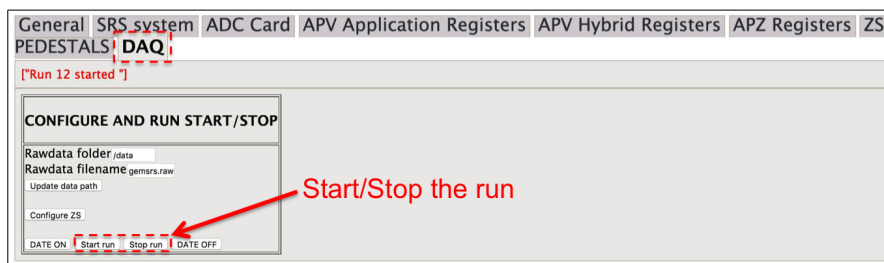

Figure 5.29: QC5 SCRIBE DAQ panel.
9. Open the SCRIBE "DAQ" window and click on "*Start run*" to enable the trigger, as indicated in Fig. 5.29.
- 860 trigger (Fig. 5.29).
4. In the SCRIBE "DAQ" window and click on "DATE OFF" (Fig. 5.29).